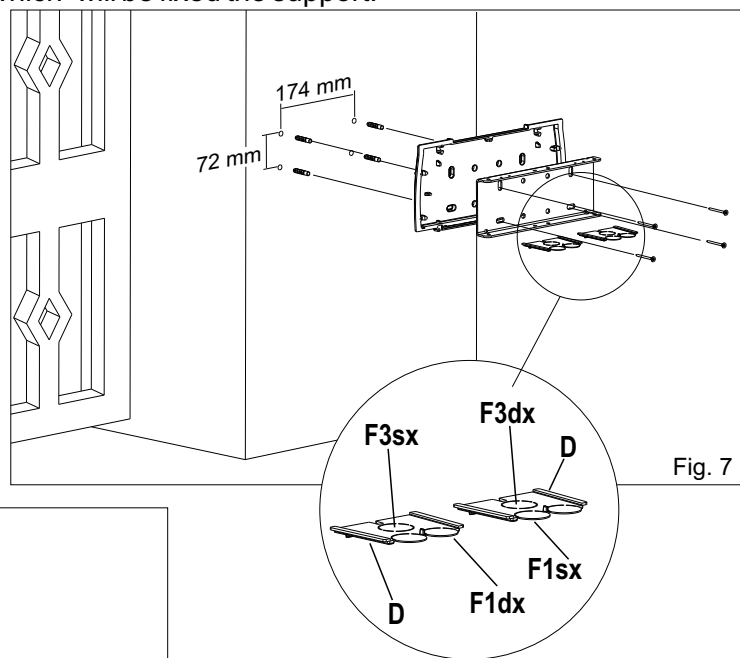

Fig. 7
- Fasten the back plate and the anchor plate to the pillar with 4 screws and 4 fishers not supplied (Fig. 7).
Insert into the appropriate louvers the caps "D" and open with a pair of tongs hole "F1" corresponding to the reducer shaft output, also open the more internal hole "F3" to be used as cable passage (Fig. 7).